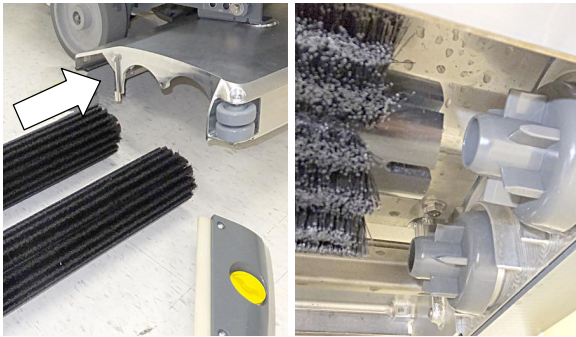

FIG. 25
4. Slide the brushes into the scrub head and connect the slotted ends of each brush into the drive hubs (Figure 25).